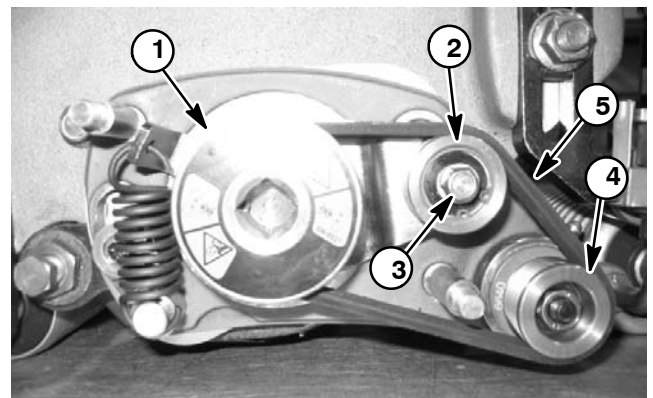

Figure 5
3. Pivot idler pulley by placing a 10mm wrench on pulley nut and rotating clockwise to relax belt tension. Slip groomer drive belt off pulleys (Fig. 5). Release idler.
4. Install new drive belt to drive pulley, idler pulley and driven pulley observing correct belt routing (Fig. 5).